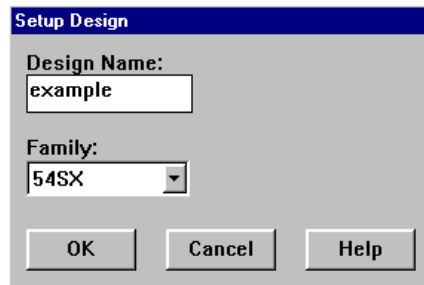
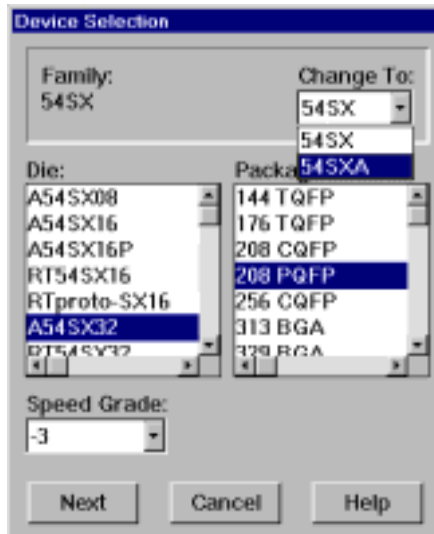

Figure 6-3. Setup Design Dialog Box
Figure 6-5. Device Selection Dialog Box (SX/SXA)
If you selected an SX family device, you will not see the dialog box displayed above. An SX family device may be upgraded to a compatible SXA family device without re-compiling. If you chose an SX device in the Setup Design dialog box (Figure 6-3), you will see the SX/SXA Device Selection dialog box displayed below in Figure 6-5.
- 1. Choose the Setup Design command from the Options menu in the Designer Main window.** The Setup Design dialog box is displayed (see Figure 6-3 on page 65).